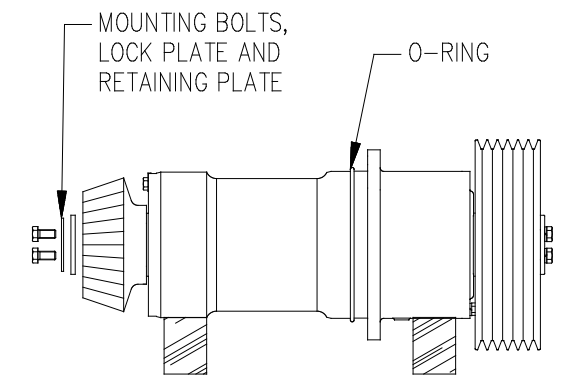

Fig. 6.9.9
6. Place horizontal shaft assembly on wooden "V" blocks and remove the mounting bolts, lock plate and retaining plate. (Fig. 6.9.9).